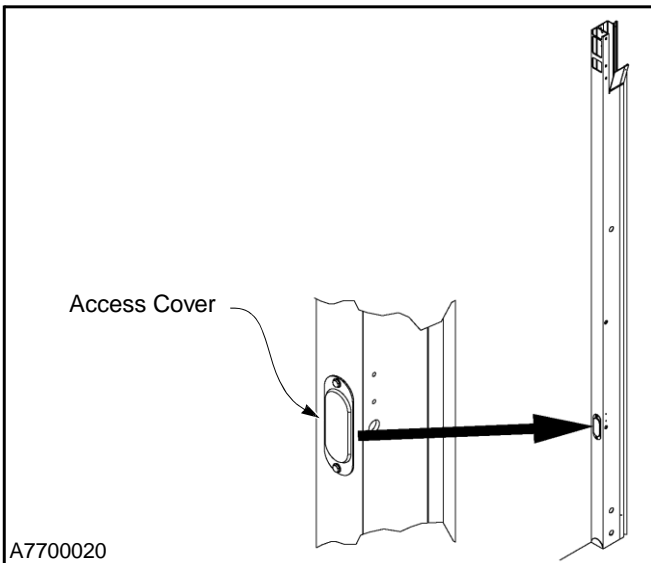

Figure 33
2. Locate and remove the access covers and hole plugs from the side column to gain access to the wires. (See Figure 33.)